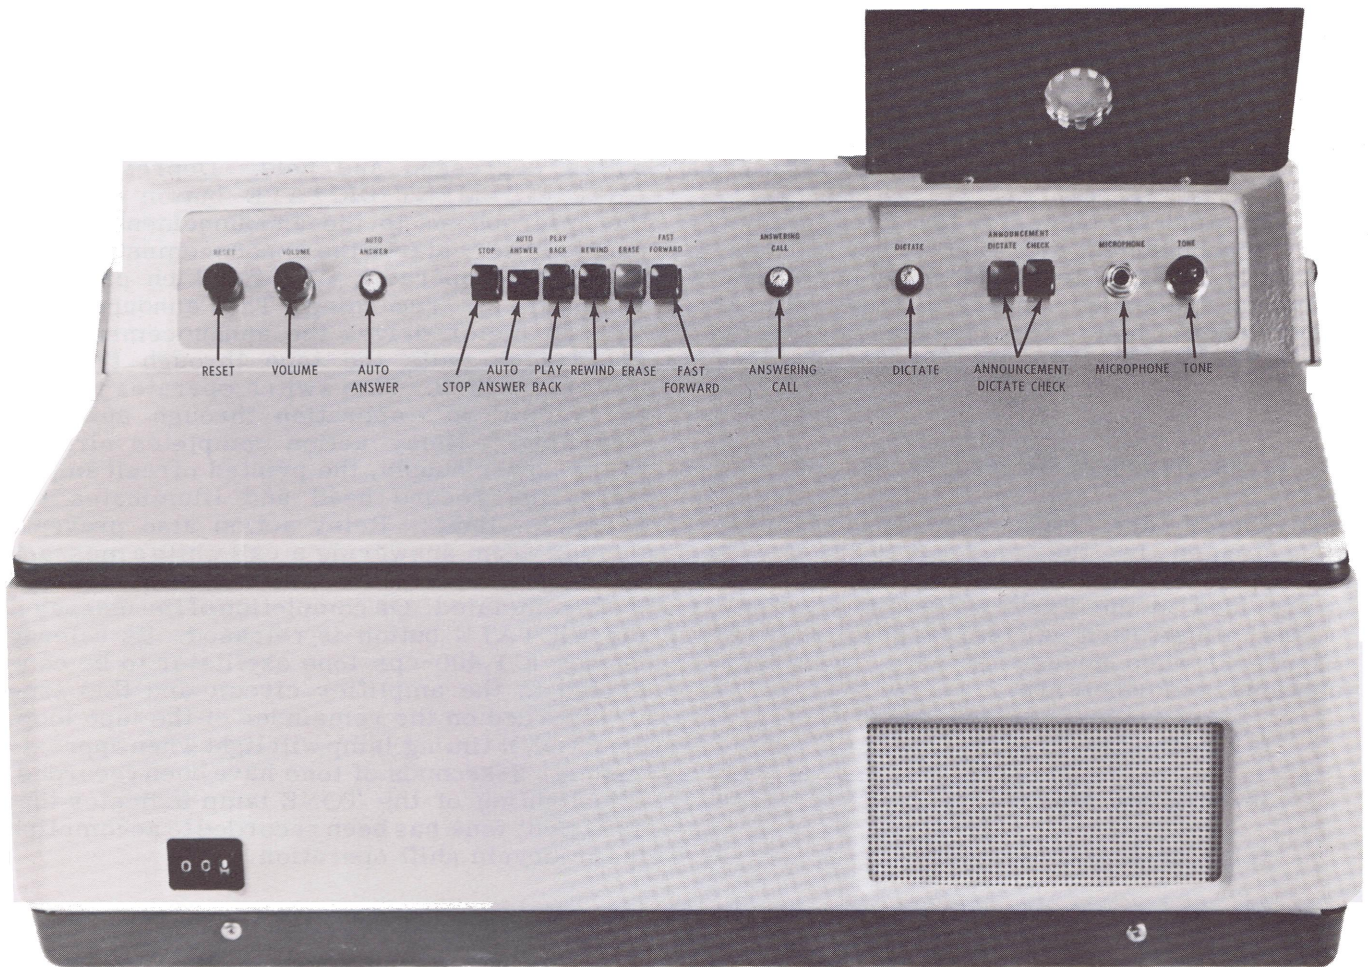

Figure 3. Model LP-TD-C Controls.
- (1) Lift the black cover on the right side of the panel (Figure 3) and insert the microphone into the MICROPHONE jack.
- (2) Depress the AUTO-ANSWER button. The AUTO-ANSWER lamp will illuminate.
- (3) Depress and hold the ANNOUNCEMENT DICTATE button (green) and begin talking when the DICTATE lamp lights. Dictate your message
4.01 There are eight basic functions performed by the Model LP-TD-C. A general description of each of these functions is provided in the Parts which follow. Refer to the illustration of the Model LP-TD-C (Figure 3) when necessary. The eight basic functions performed are: